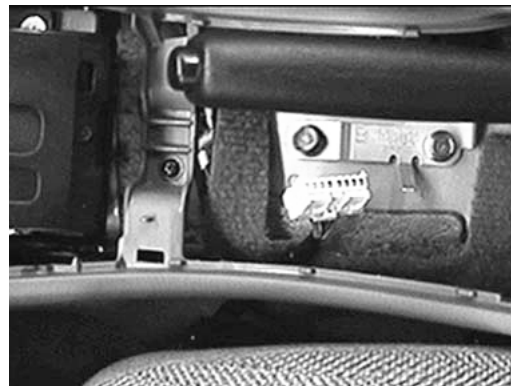

Figure 5
- Route the male connector of the extension harness under the center console from the driver's seat side. See Figure 5.